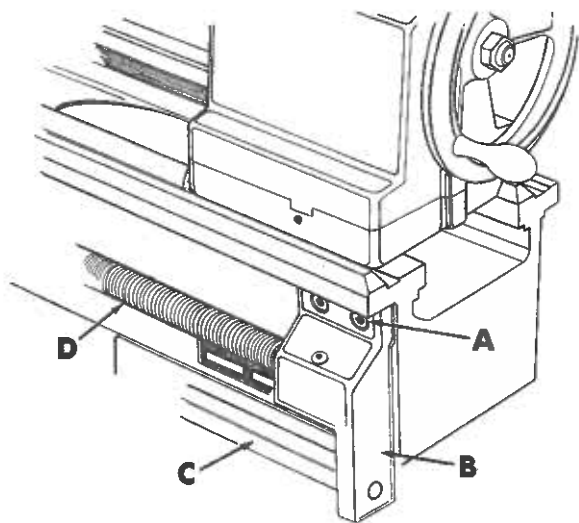

Figure 18
1. Remove two socket cap screws (A, fig. 18) from lead screw bracket (B). Remove bracket from lead screw (D) and clutch rod (C).